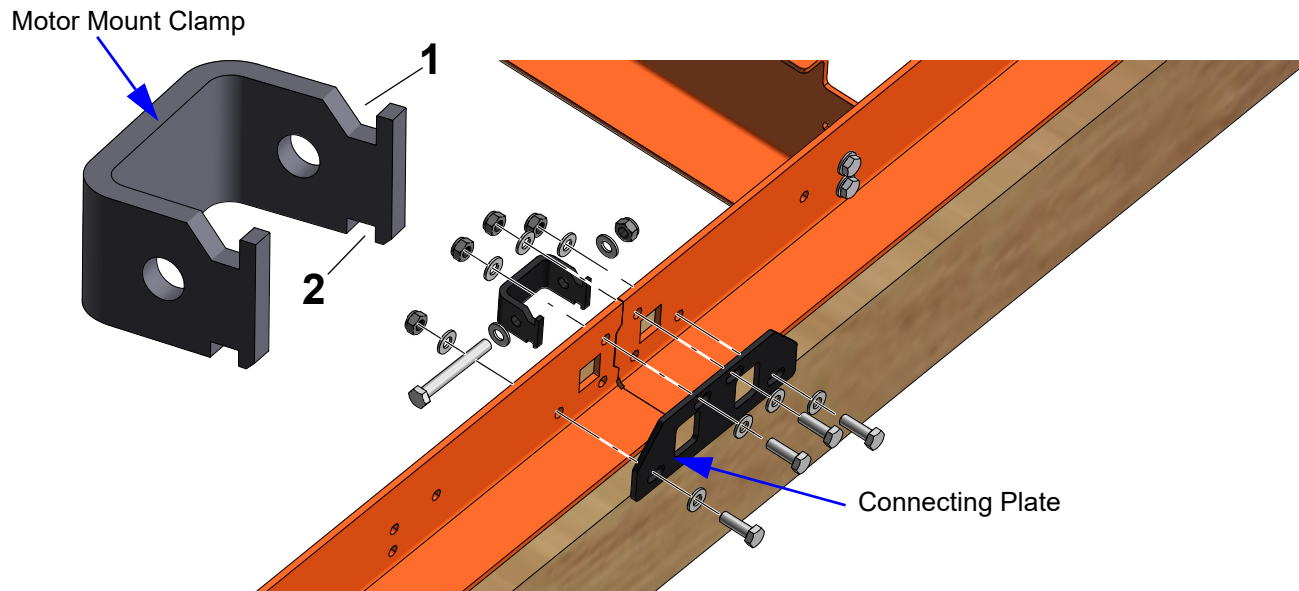

FIG. 2-5
3. Connect the bed sections using the connecting plate, clamp and bolts shown in Figure 2-5.
See figure 2-5.